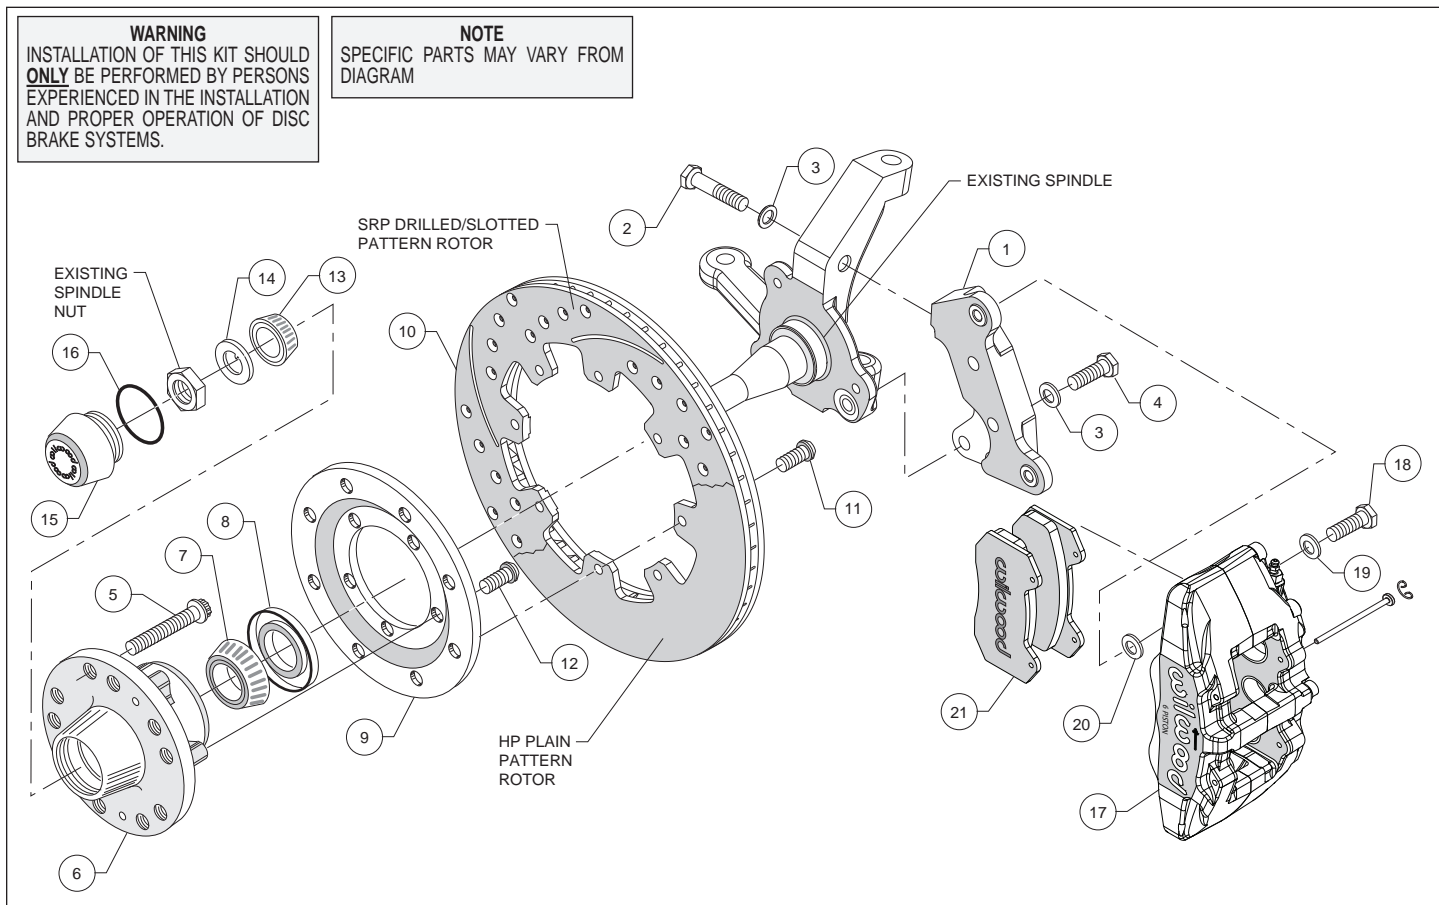

Figure 1. Typical Installation Configuration
- The caliper mounting bracket (1) should be installed first with clean, dry threads on the mounting bolts. Position the caliper mounting bracket (1) on the inboard side of the spindle. **NOTE:** Be sure the heads of the caliper bracket (1) insert nuts are facing outward toward the wheel. Slide bolt (2) through washer (3) and through the upper section of the spindle into the caliper mounting bracket (1). Slide bolt (4) from the backside through washer (3) and into the mounting boss on the spindle body (reference figure 1). Finger tighten only at this time. The bracket must tighten squarely against the inboard side of the spindle body. Inspect for interference from casting irregularities, machining ridges, burrs, etc. Later, after the caliper, pad, and rotor alignment has been checked, and any necessary shims have been put in place, the threads of the mounting bolts should be coated with red *Loctite*® 271 (see below).
- Install wheel studs (5) into the hub (6). Torque to 77 ft-lb. **NOTE:** There are two lug patterns of five holes each in the hub (5 x 4.50 and 5 x 4.75). Make sure of the correct hole pattern for the wheel application before installing the studs into the hub.
- Orient the rotor (10) and the rotor adapter (9) as shown in Figure 1. Attach the rotor to the adapter using bolts (11). Using an alternating sequence, apply red *Loctite*® 271 to the threads, and torque to 25 ft-lb.
- Mount the adapter/rotor assembly (9/10) to the hub (6) using bolts (12), as shown in Figure 1. Using an alternating sequence, apply red *Loctite*® 271 to the threads, and torque to 55 ft-lb.
- Pack the large inner bearing cone (7) with high temperature disc brake bearing grease (available from your local auto parts store) and install into the backside of the hub (6).
- Install the grease seal (8) by pressing into the backside of the hub (6).
- Pack the small outer bearing cone (13) with high temperature disc brake bearing grease and install into front of hub (6). Slide the hub assembly (5, 6, 7, 8, 9 and 10) with outer bearing cone (13) onto the spindle. Secure using spindle washer (14), stock adjusting nut and nut locking device. Adjust bearings per Original Equipment Manufacturer (OEM) specifications.
- Remove the two pad retaining pins from the caliper (17) by carefully popping out the pin retaining clips and sliding out the pins. Insert the brake pads (21) into the caliper from the bottom, Figure 1, with the friction material facing the rotor. Secure the brake pads in place with the pad retaining pins and clips. Reinstall the caliper onto the caliper mounting bracket. Apply red *Loctite® 271* to bolt threads (18), and torque to 40 ft-lb.